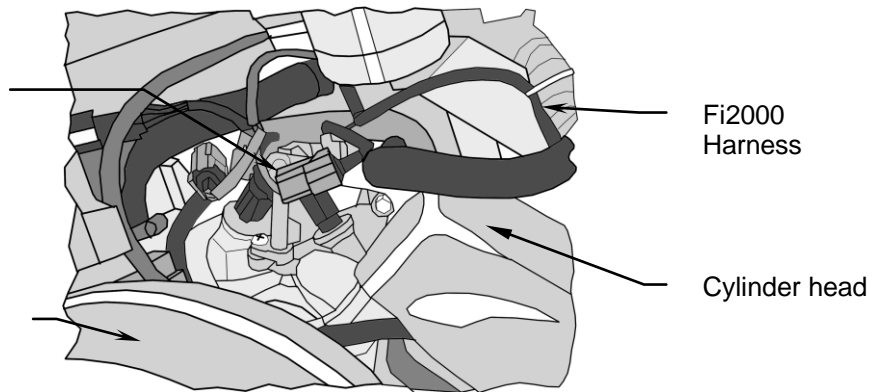

FIGURE 2
4. Locate the gray factory fuel injector connectors and disconnect each one by depressing the locking tab and replace it with the Fi2000 gray connector. Then plug the original connector into the corresponding Fi2000 black connector. Connect one cylinder at a time to prevent from mixing up the injector harness order. The longer Fi2000 harness is mated to the front injector and connector, (Fig. 2).